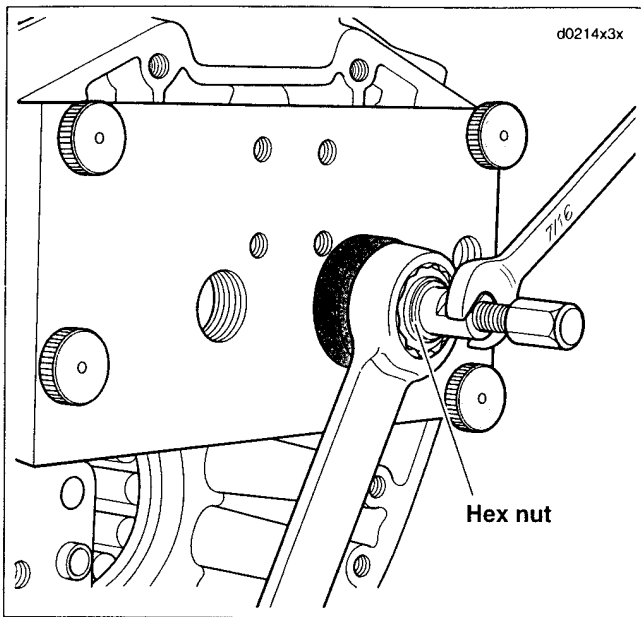

**Figure 3-143. Expanding Collet By Turning Hex Clockwise**
10. See Figure 3-143. Using a 7/16 in. open end wrench, hold flat on collet to prevent rotation. Using a second 7/16 in. open end wrench, expand collet by turning hex at end of shaft in a clockwise direction. Expandable end of collet makes contact with needle bearing ID.